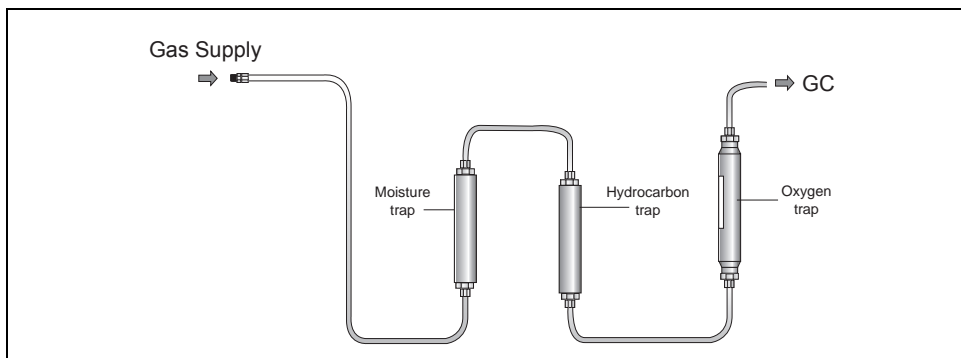

Figure 4-2. Gas Trap Order
You may wish to use traps, such as moisture or oxygen traps, in your gas supply line. Traps are especially necessary if you are unsure of the purity of your gas supplies. Refer to *Gas and Plumbing Requirements* in Chapter 1, *Laboratory Preparation*, for more information about gas purity requirements and appropriate traps for your GC. Figure 4-2 shows the proper order of traps in a gas supply line. Refer to your trap's instruction manual for specific purging and installation requirements.
1. Determine the location for the trap in your supply line. Figure 4-2 shows the recommended trap order.